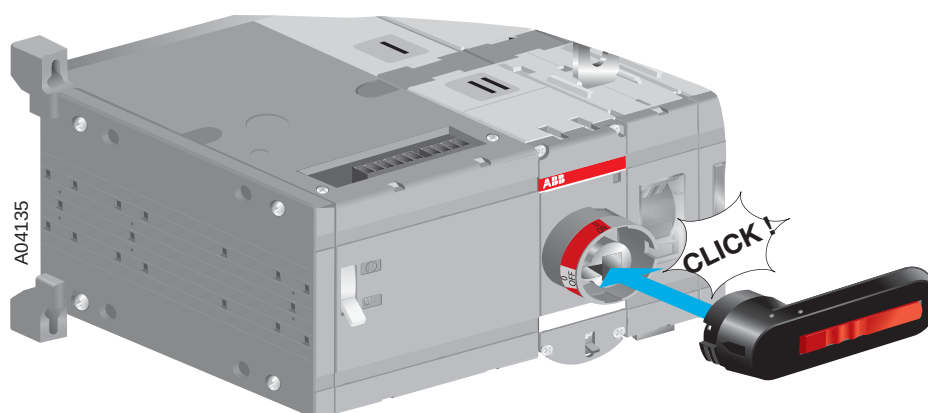

Figure 6.6 Attaching the handle
2. Attach the handle by pressing it to the switch panel until it clicks into place. You can attach the handle in all positions (I, 0, II), see Figure 6.6.